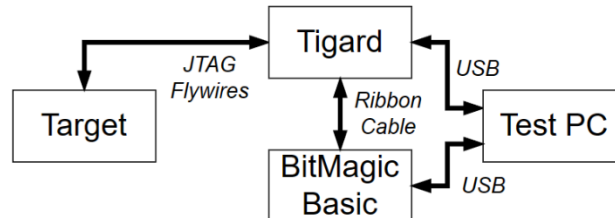

Figure 31: Block diagram for JTAG using Tigard with BitMagic Basic
5. Power off your target, then connect the Tigard JTAG flywires to the target. See Figure 31 for a block diagram.